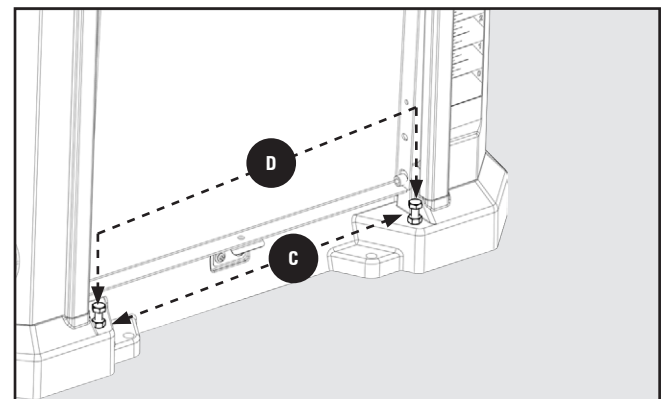

FIGURE 25
5. If your table needs adjustment, loosen the lock nuts **D** Figure 25 on the table height-adjustment screws **C**. Adjust the screws up or down to achieve the desired table height.